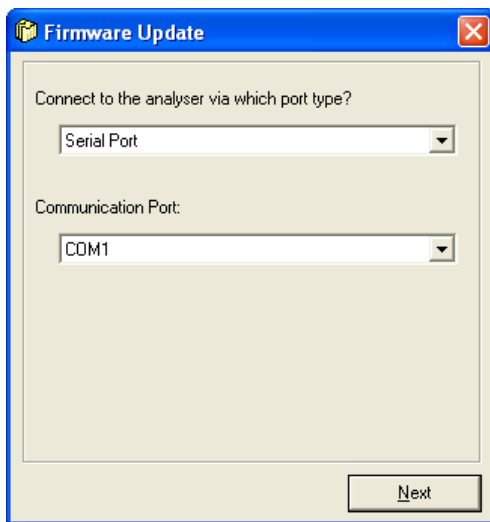

Figure 36 – Communications window
6. Verify its details in the Details window as shown in Figure 36.